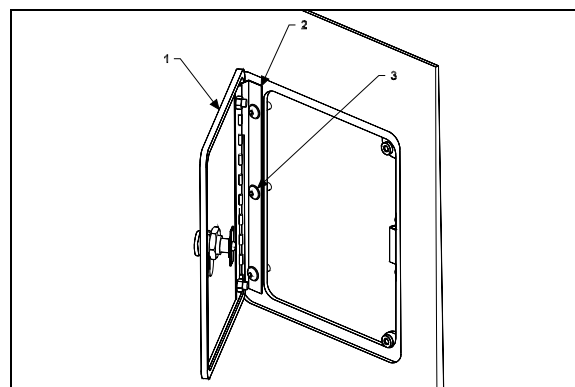

FIGURE 68: FUEL FILLER DOOR
1. Open the fuel filler door (1, Figure 68).
2. Loosen the screws (3, Figure 68) holding the panel to hinge (2, Figure 68) assembly.